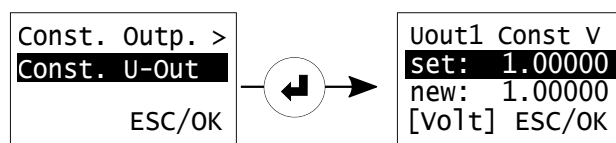

Figure 6.9: Setting a constant voltage output.
5. **Changing the value of the constant output:** in case you chose the **Const. Outp.** mode, you can manually change the value of the constant voltage output by moving the cursor to the second display line **Const. U-Out**, clicking <ENTER>, and entering the desired value followed by clicking **OK** (see Figure 6.9).